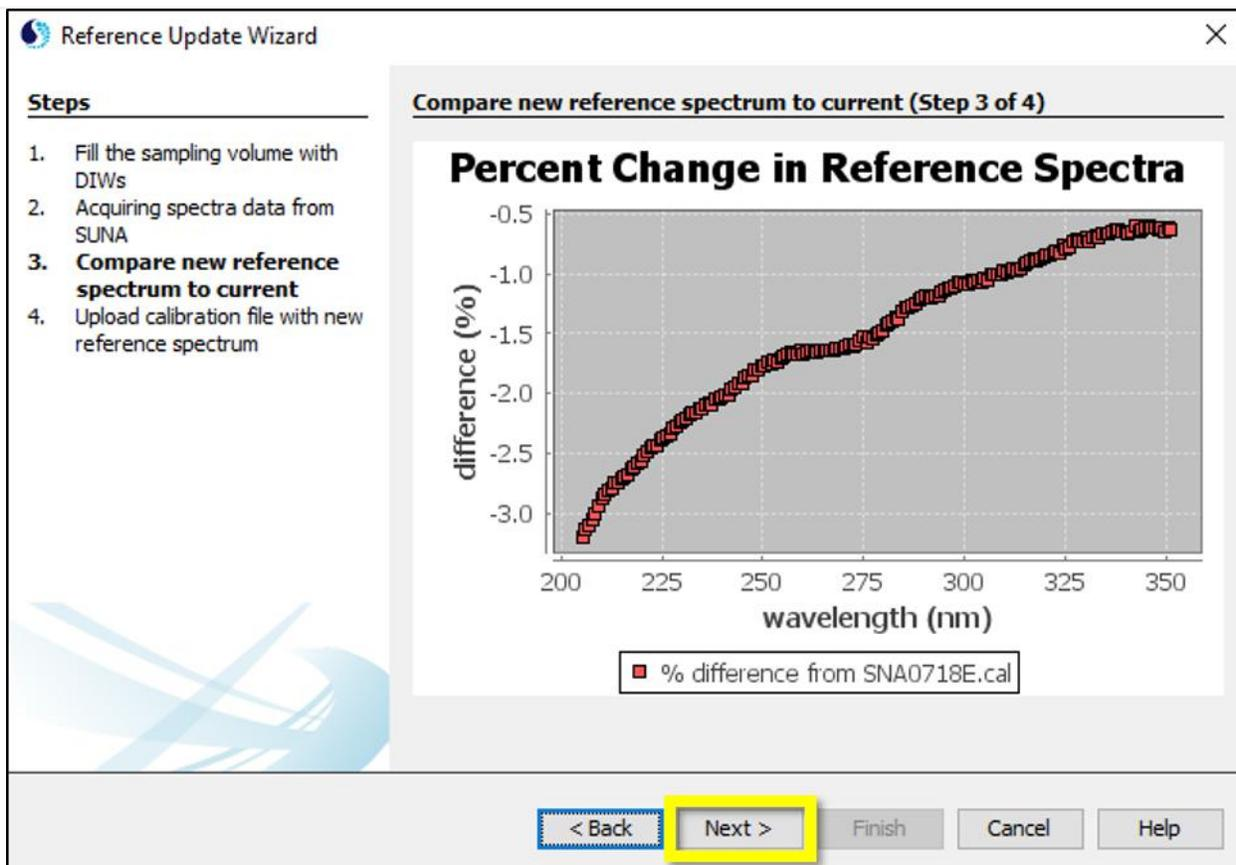

Figure 60. Reference Update Wizard Step 3 of 4: Compare New Reference Spectrum to Current
**STEP 4** | For Step 3 of 4 in the Reference Update Wizard, if the percent change is between -20% and +5%, click “NEXT>” to accept the percent change (Figure 60).